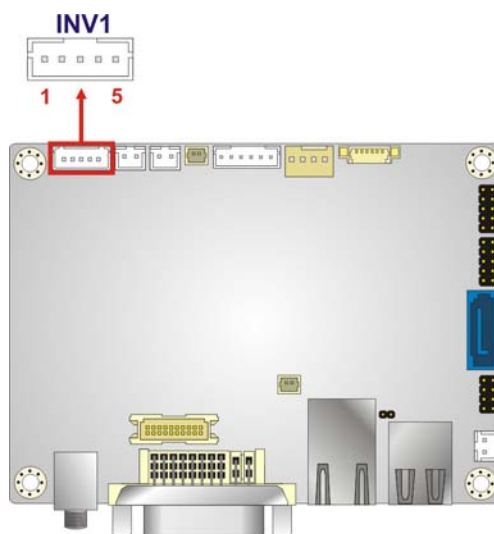

Figure 3-12: Backlight Inverter Connector Location
- CN Location: See **Figure 3-12**